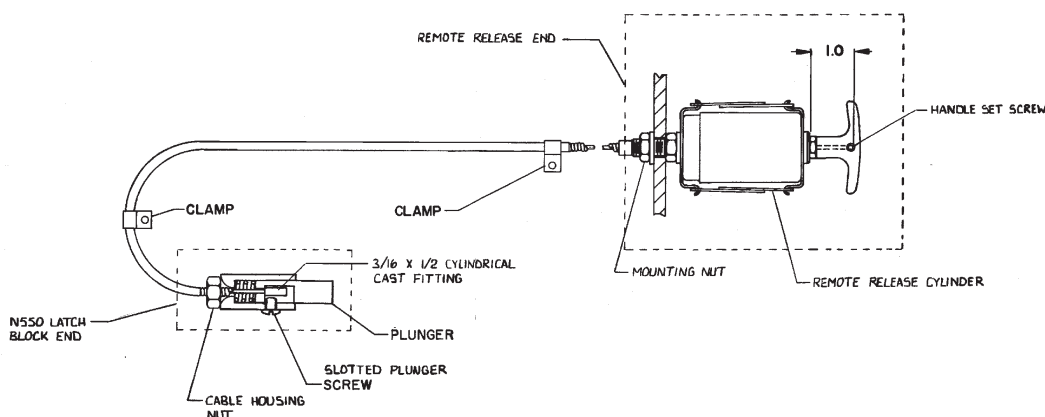

Figure 3. Type P164B Installation Schematic
2. If it is necessary to cut the cable to a shorter length, pull about one foot of inner cable from the N550 latch block cable end (end with the 3/16 by 1/2 long cylindrical cast fitting, see Figure 3) from the housing.
5. Loosen the slotted screw, Figure 3, on the N550 valve's latch block until the plunger can be pulled from the latch block.